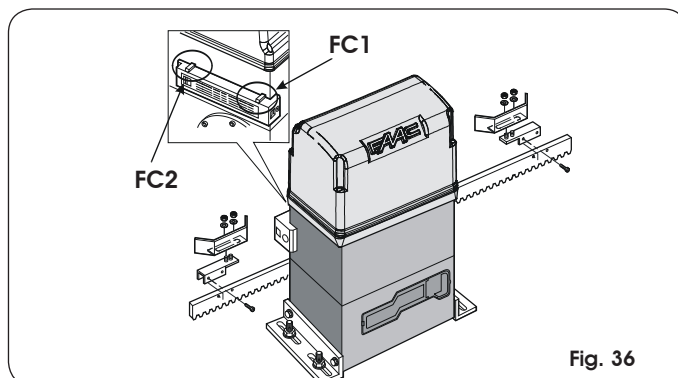

Fig. 36
- Assemble the limit-switch by centering the plate with respect to the threaded pins of the support (Fig. 36).